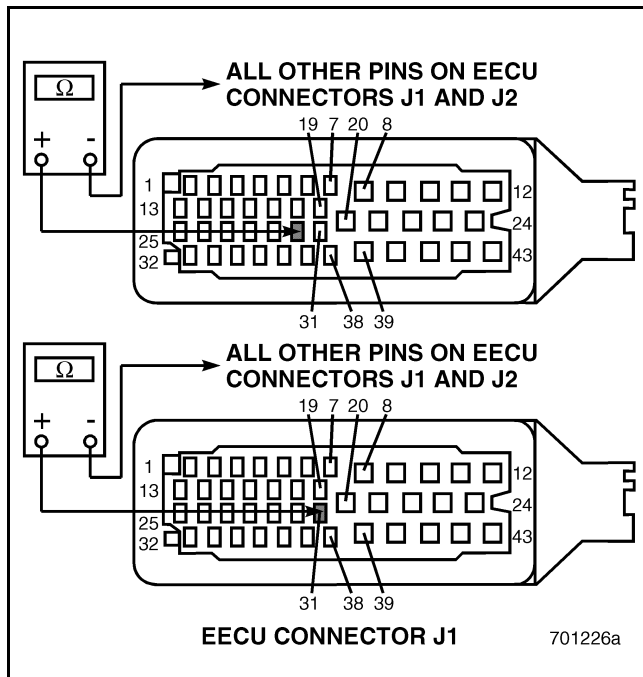

Figure 359
4. Check for continuity between EECU connector J1 pins 30 and 31 versus all other pins on EECU connectors J1 and J2 (see Figure 359).